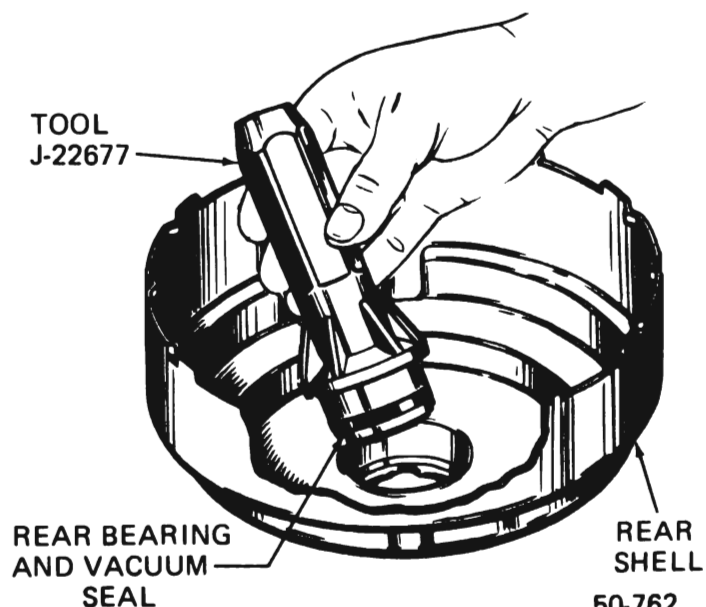

Figure 50-138 Installing Rear Bearing and Vacuum Seal
2. If the rear bearing and seal were removed, press new bearing and seal into this cavity in the rear shell using Tool J-22677. See Figure 50-138. The flat rubber surface of the seal should be $5/16$ " below the flat, inside surface of the rear shell.